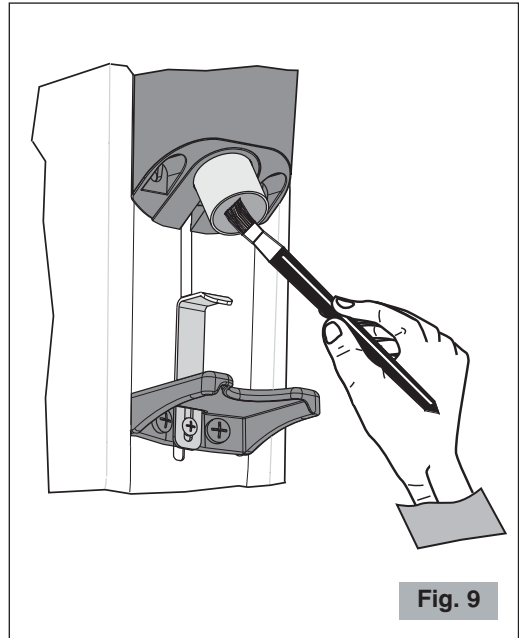

Fig. 9
- Use a brush or a paintbrush (Fig. 9) to clean the most hidden areas inside the unit and a dry cloth for the other surfaces.